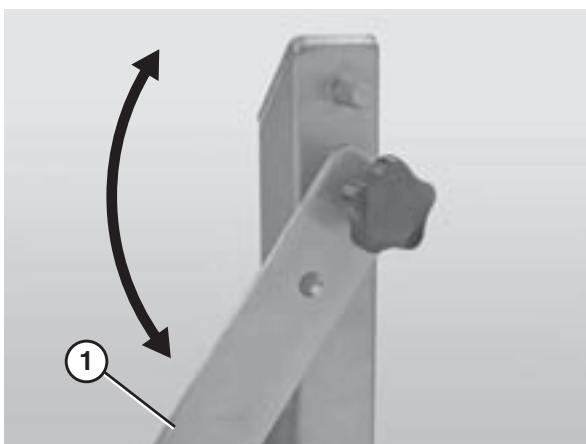

Figure 47
- Lower the quick release arm (Figure 47, item 1) on one of the stands. *Note: if the conveyor is not equipped with Quick Release (QR Type) stands, it will be necessary to remove the entire stand.* For detailed instructions, refer to the “Sanitary Support Stands Installation, Maintenance and Parts Manual.”